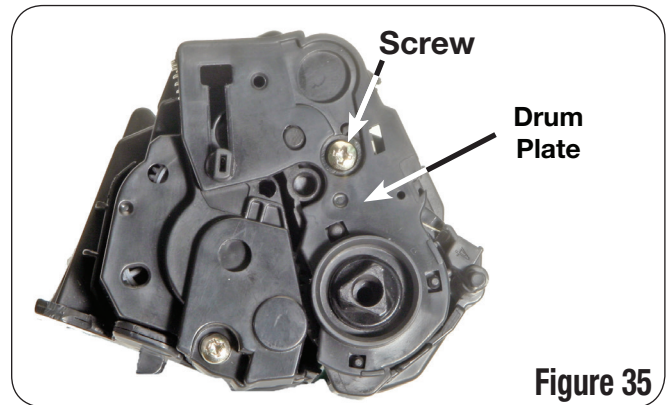

Figure 35
37. Using a Phillips screwdriver, install the screw into the drum plate (Figure 35).